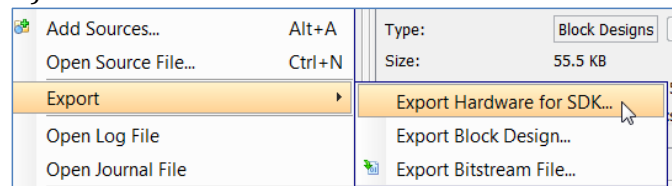

Figure 41: Export Hardware for SDK
2. From the main Vivado File menu, **select** “Export → Export Hardware” (Figure 41).